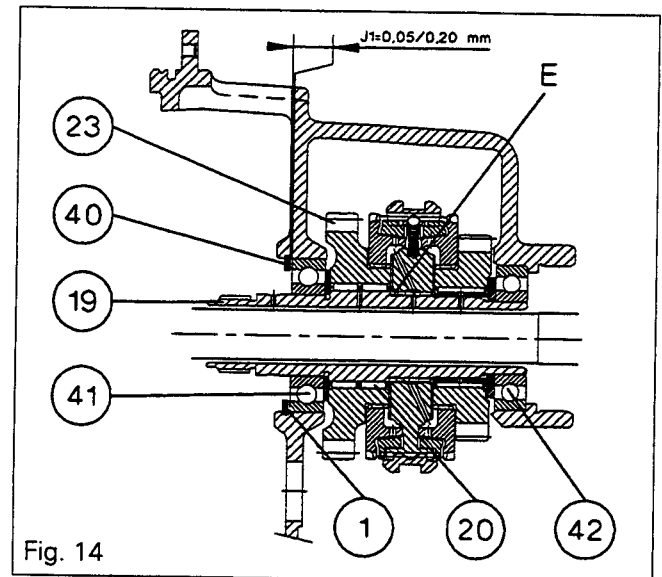

Fig. 14
**H. Speedshift version (Fig. 14)**
**Special points (Fig. 14)**
- The circlip (40) replaces the locking plate (25).
- Gear (23) is supported by a bearing (20) comprising two rows of needle rollers.
- Check that the splines on the shaft (19) are engaged with those of the synchromesh. Fit the shaft, with the shoulder «E» pressed against the synchromesh, using a press and a suitable fixture fitted on the inner housing of the bearing (42).